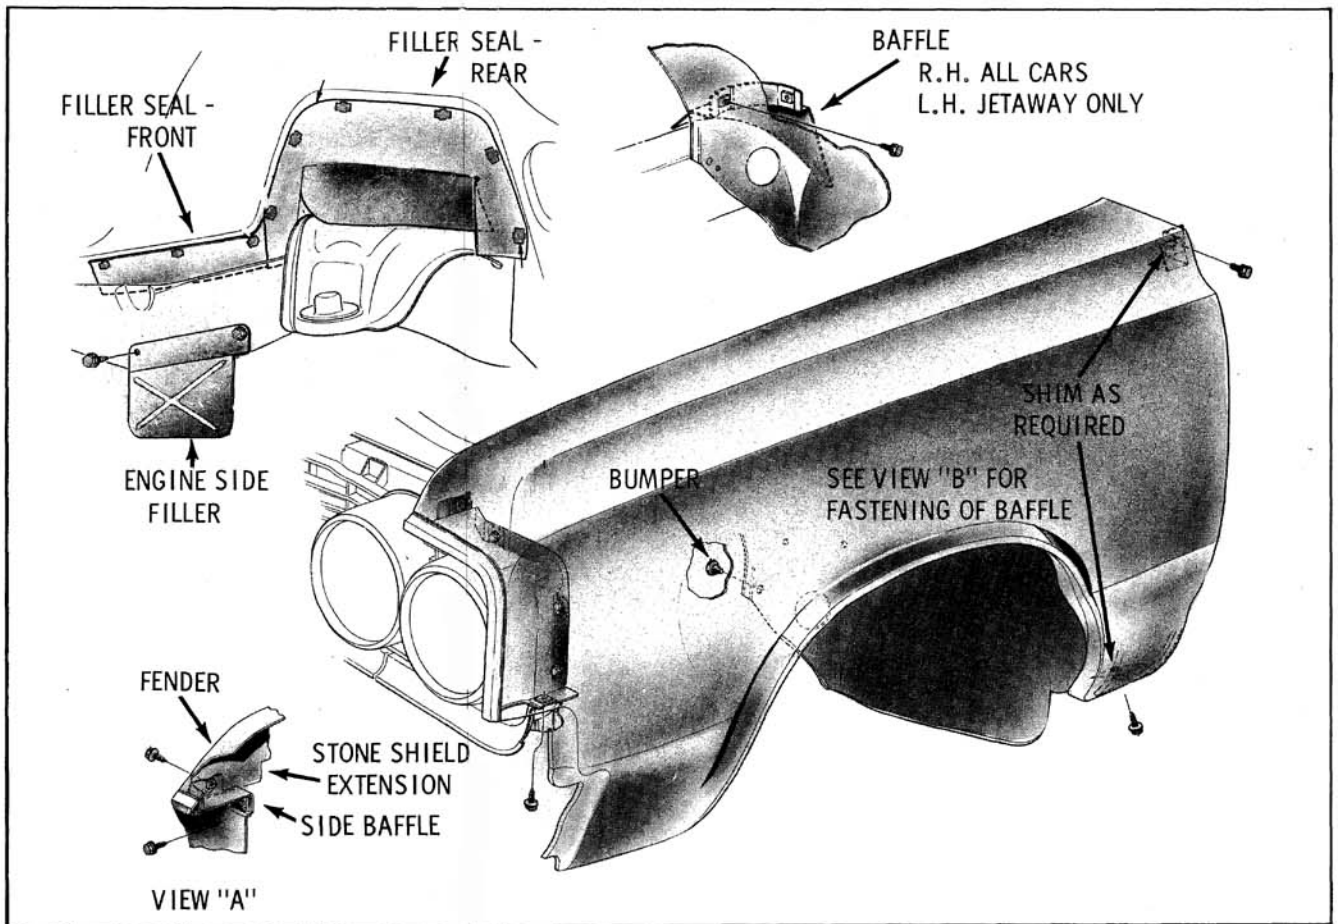

Fig. 15-116 Fender Mounting
1. Remove the screws indicated at shim points in Fig. 15-116.